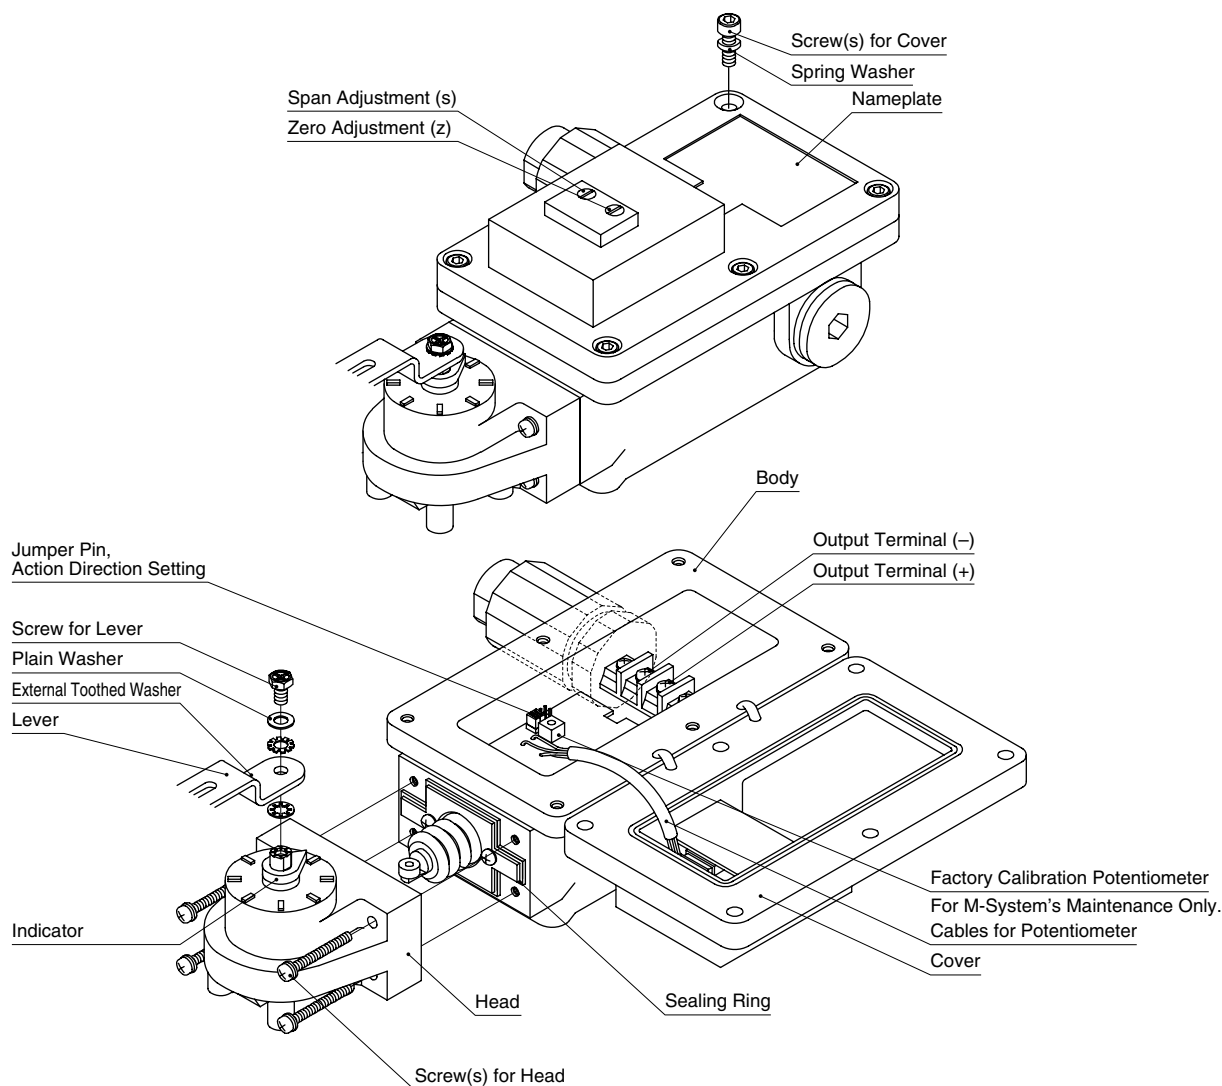

Fig. 1
Connect the lever to the VOS-ER unit with a screw included in the package, with a plain washer and a toothed washer between them as in Figure 1. At this stage, you do not have to fasten the screw tightly.
Refer to Figure 1 and Figure 4 – 1 and proceed as following:
When the VOS-ER is shipped from factory, the indicator (Figure 1) is positioned at 50% of rotation angle.
- 1) Loosen 4 screws in Figure 1 which fix the head part and detach it.